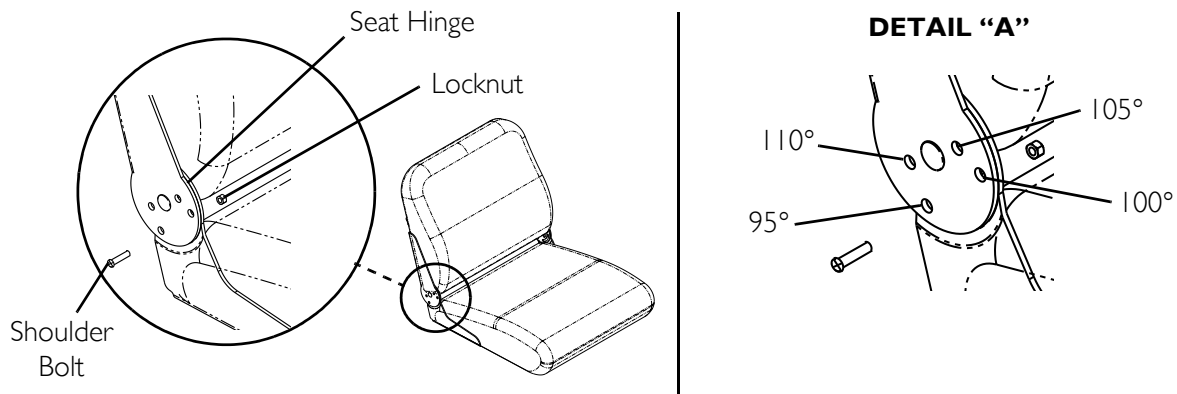

FIGURE 7.2 Adjusting the Back Angle - Fold Down Back Angle
NOTE: For this procedure, refer to FIGURE 7.2 on page 41.
2. Select one of the four back angle positions as shown in Detail "A" of FIGURE 7.2 on page 41.